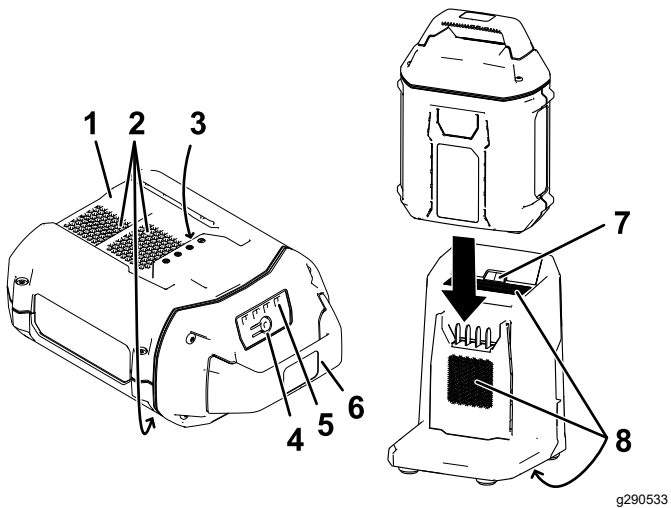

Figure 19
- 2. Line up the cavity in the battery pack (Figure 19) with the tongue on the charger.
- 3. Slide the battery pack into the charger until it is fully seated (Figure 19).